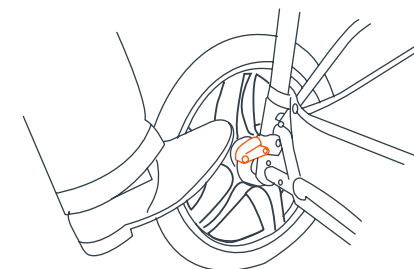

Fig. 11
- 11) •** To engage brakes, apply light downward pressure to the brake lever located on each rear wheel. The stroller may require slight forward or rearward movement in order to line up the teeth on the brake with each wheel brake cluster (Fig. 11). **NOTE:** Check that the stroller will not move and that both brakes are properly applied.